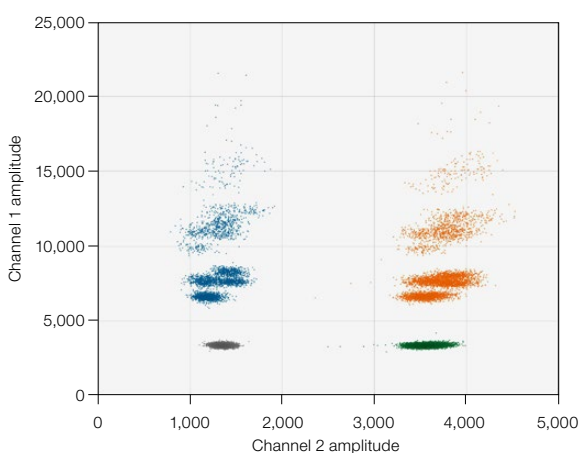

Fig. 4. Example positive control well.
2. Navigate to the 2D Amplitude tab and examine the control wells for uniformity. Do not use poor-quality positive control well(s) as thresholding controls. See Figures 4 and 5 for example positive and negative control well 2D plots.